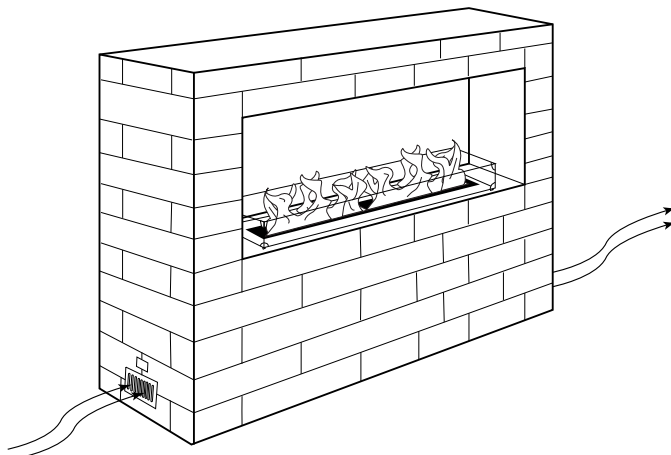

Fig. 3. Cross ventilation example providing minimum of 18-square inches per side using Firegear VENTKIT-6x12SS provided.
10. **CAUTION:** A minimum of 18 square inches of cross ventilation (per side) is required to keep the inside of the enclosure dry. Install the supplied VENT-KIT-6x12SS approximately 3 to 4 inches from the floor centered on each end of the fireplace (See Fig. 3, page 6).
Fireplaces are subjected to many outdoor elements such as rain, snow, wind, heat or cold. **A minimum of 18 square inches of cross ventilation (2 sides) is required to keep the components in good working order.** Use Fig. 3 as a guide.